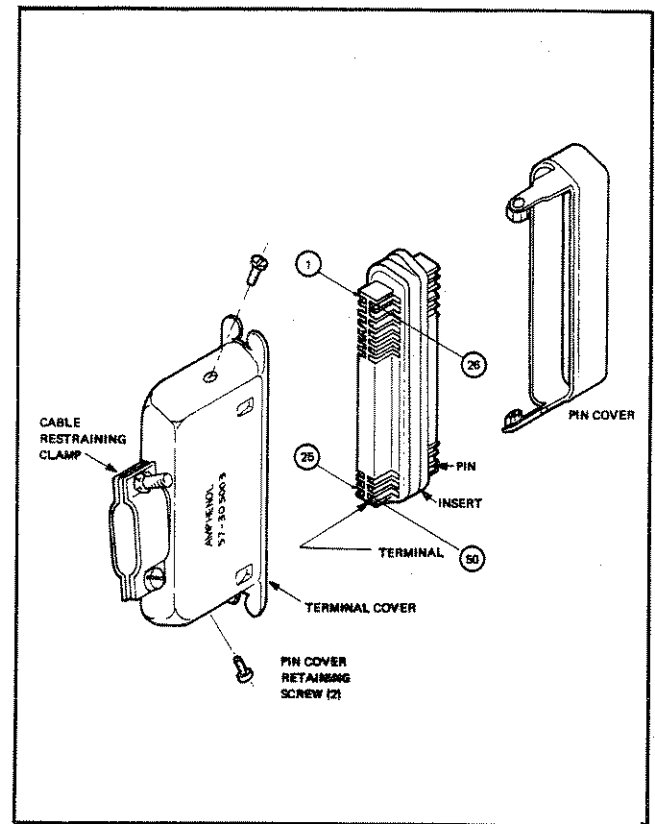

Figure 6-1. MALE PROGRAMMING CONNECTOR
6-2. The Amphenol, male, programming connector shown in Figure 6-1 is used to interface the instrument to a programming source. This male programming connector mates with the female programming connector that is mounted on the rear panel of the instrument. A male connector is normally supplied with each instrument, less cabling, but may also be ordered directly from Amphenol under PART NO. 57-30500, or from the John Fluke Mfg. Co., Inc., by referencing FLUKE PART NO. 266056.
- d. Solder the wiring to the appropriate terminals of the numbered insert. Refer to Figure 6-1 for terminal locations. Use pin cover to support insert during soldering.